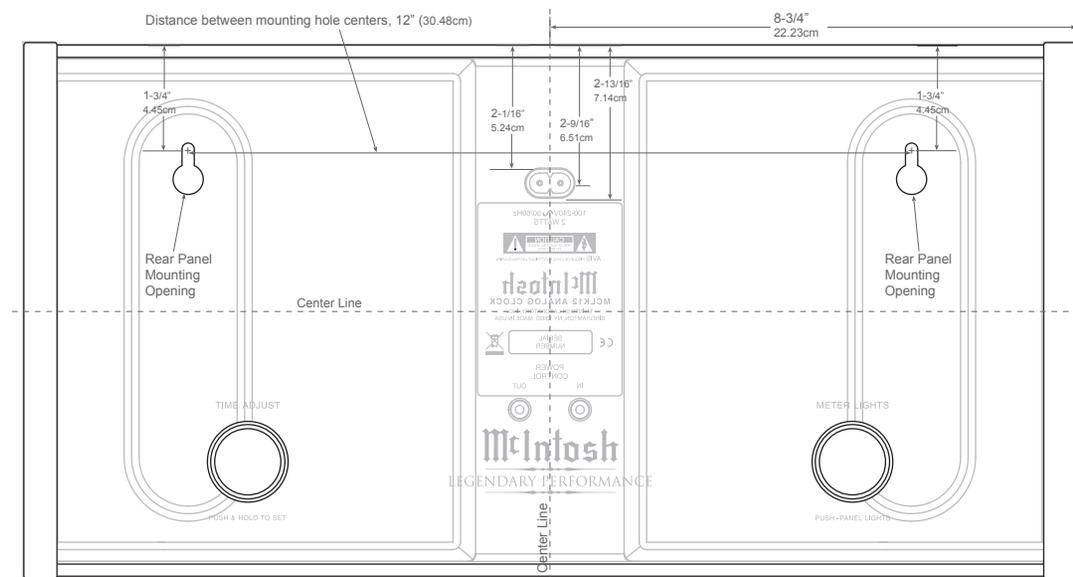

Figure 1
1. Use the supplied MCLK12 Mounting Template sheet (drawn actual size) to determine the clock's location on the wall. Refer to figure 1.